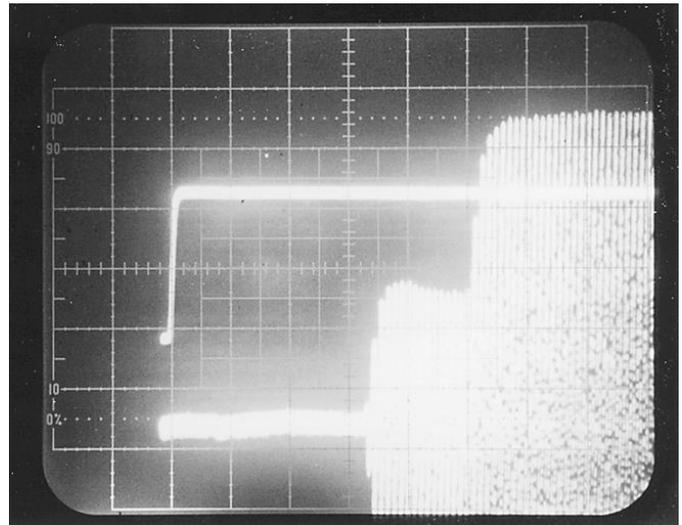

Fig. 4-9A — Oscilloscope Trace of RF Envelope
4.9.3.4 Tune the transmitter, if necessary, exactly per the operator's manual for the 14.250 MHz test frequency. Turn on the two-tone generator and set the A tone switch to ON. With the DUT in the USB mode, set the generator LEVEL and ATTENUATOR controls for the maximum audio input level as specified by the DUT manufacturer. Unkey the transmitter and turn the keying test generator ON. Adjust the oscilloscope settings (including sweep rate) as required for an optimum display trace as shown in Fig. 4-9A. If the audio output is not visible at all on the oscilloscope it will be necessary to increase the keying test generator KEY-UP and KEY-DOWN time. Measure and record the time it takes to go from PTT key-up to 50% audio output. Set the keying test generator to OFF.